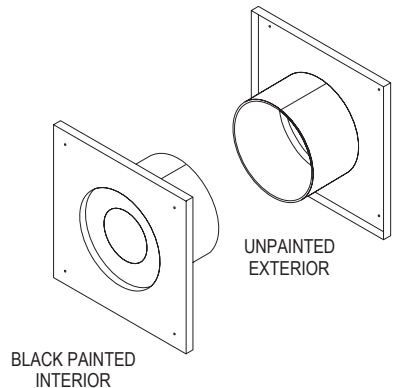

Figure 5
- B. Cut and frame a square opening in the wall as specified in **Table 1**. The black portion of the Wall Thimble is to be attached to the interior wall, and the unpainted portion is to be attached to the exterior wall. The Wall Thimble adjusts to fit walls from 3"-8" thick (**Figure 5**).